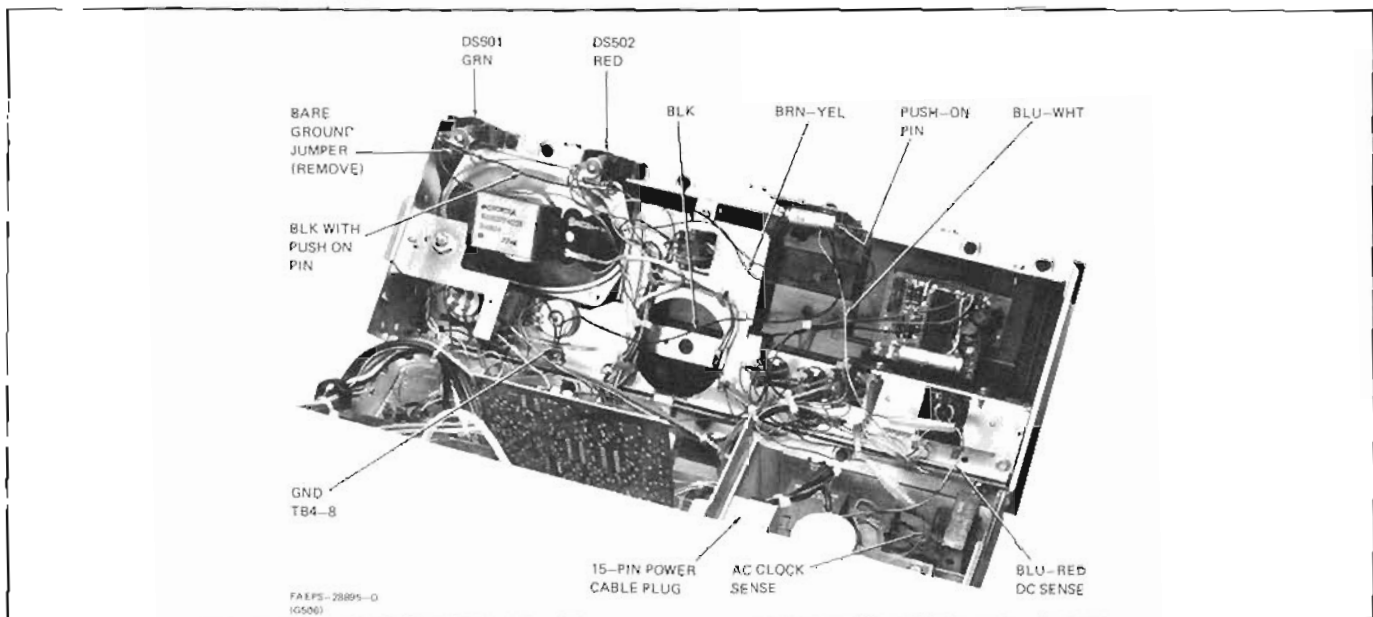

Figure 4. Connection Detail
Step 3. Solder the BLK lead to ground at TB4-8 as shown in Figure 4.
Step 5. Solder the BRN-YEL lead to the RED transmit indicator lamp socket as shown in Figure 4.
Step 7. Solder the bare end of the BLK lead with the push-on pin to the ground terminal of the GRN power-on lamp socket as shown in Figure 4. Connect push-on pin end of this lead to the warning light circuit board.